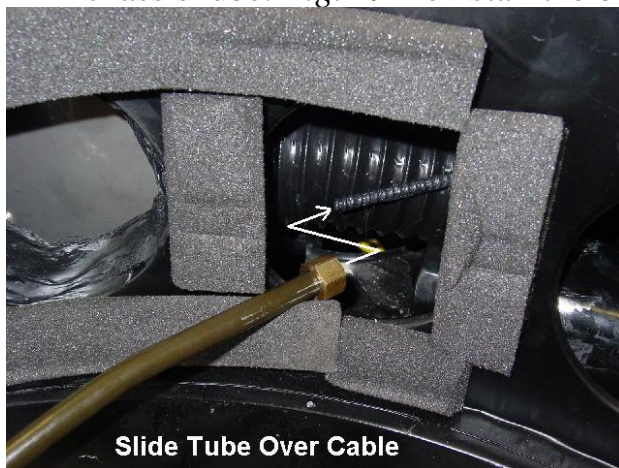

Fig. 21
15. Slide the long tube over the cable, and then slide the assembly into place. *Fig. 21*